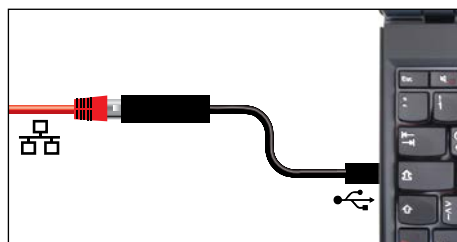

Fig. 8 Converter USB to Ethernet
- ▶ USB to Ethernet converter (Fig. 8). Makes it possible to connect the appliance's network interface (see page 12) to the USB port of a computer / laptop.